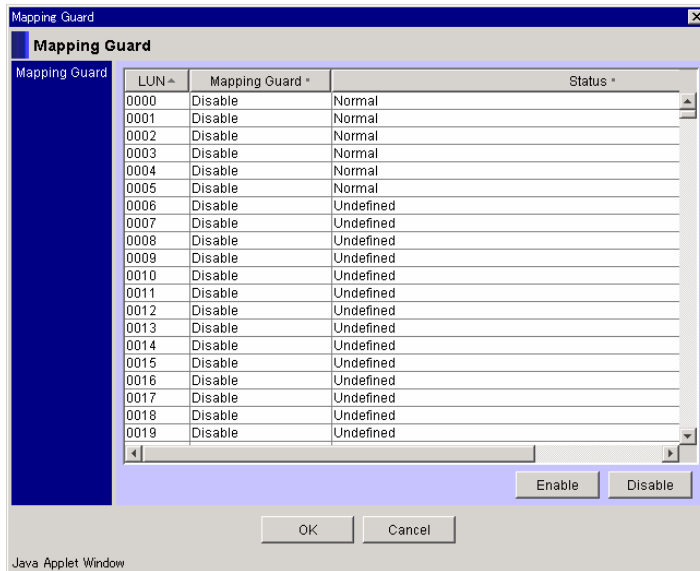

Figure 8.5 Mapping Guard window
3. In the **Mapping Guard** window: See Figure 8.5.